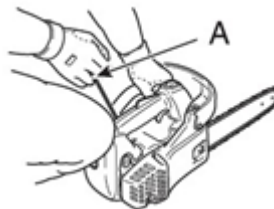

Fig. 5
6. Place the chain saw on level ground. Hold the front handle with your left hand and hold the back of the rear handle firmly with your right knee, then pull the starter cord (A) with your right hand (Fig. 5).
4. Hold the chain saw firmly. Hold the front handle with your left hand and hold the back of the rear handle firmly with your right knee, then pull the starter cord (A) with your right hand until you hear the first ignition sound (Fig. 5).